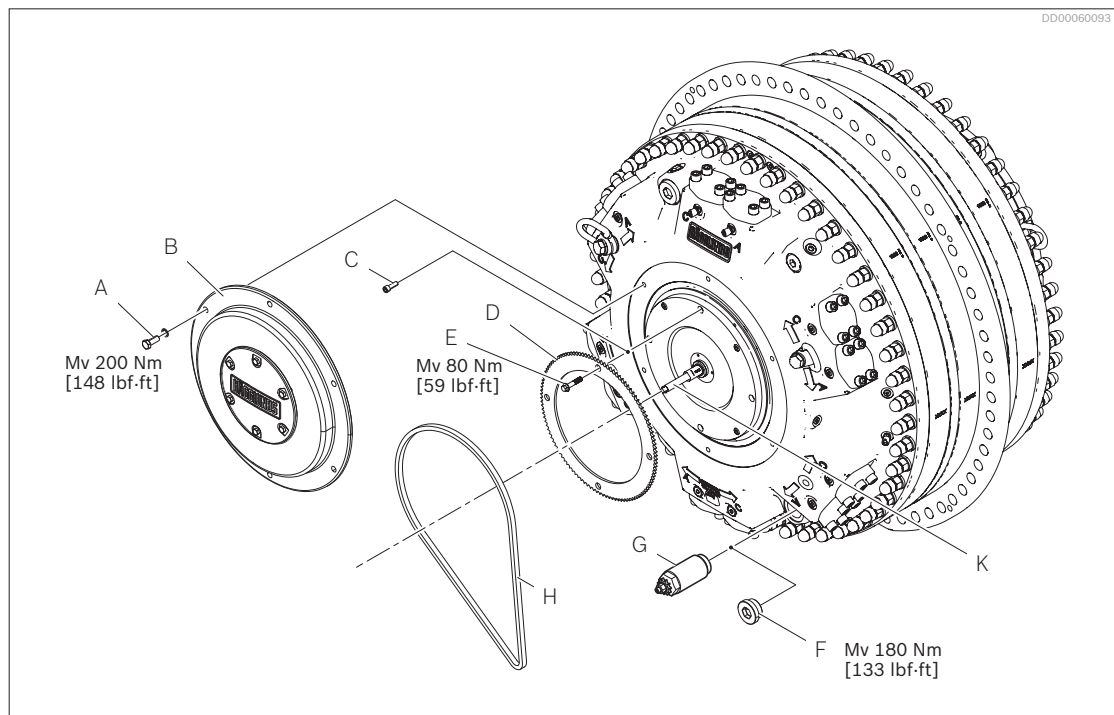

Fig. 21: Mounting the spline align tool
Carry out items 1-6 above in reverse order to remove the tool. Tightening torque according to Fig. 21: Mounting the spline align tool.